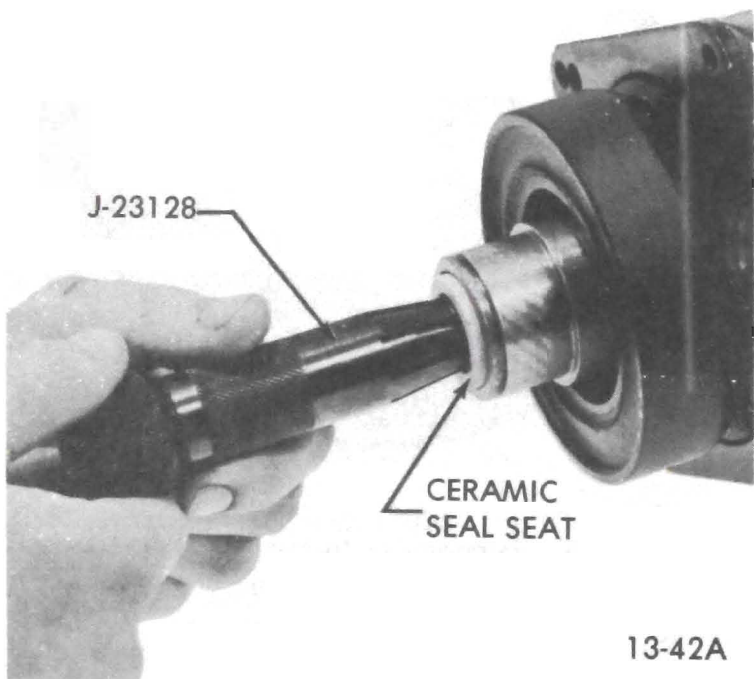

Figure 13-27 Removing or Installing Ceramic Shaft Seal Seat
7. Remove the seal seat (see Figure 13-27) using Tool J-23128. Insert Tool J-23128 into seal seat and tighten, using a twisting motion remove the seal seat.